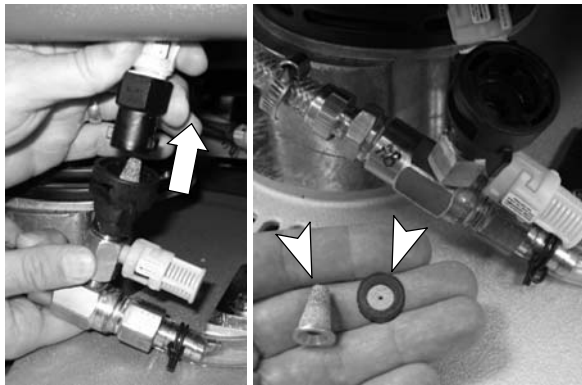

FIG. 49
2. Open the black filter housing and clean or replace the orifice plate and filter (Figure 49).